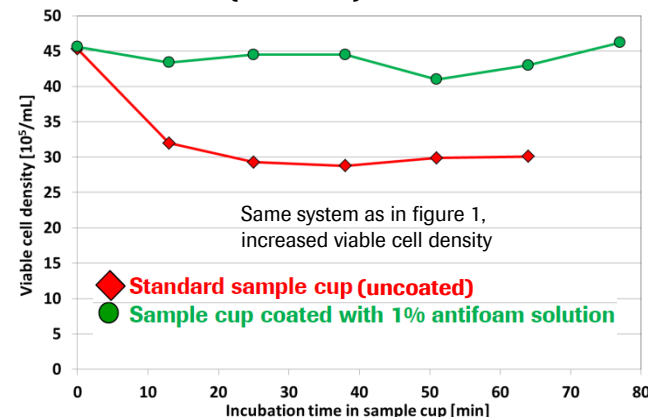

Figure 2: Adsorption to uncoated vs. antif foam coated cups
- coating with anti-foam solution (see figure 2)